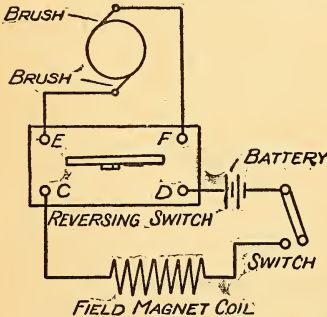

FIG. 2. CONNECTIONS OF REVERSING SWITCH
a washer being placed between the two to separate them enough to allow the lever to clear the segments (G, H, I) in passing over. Brush (J) is connected with binding post (C) and brush (K) to binding post (D) using coiled wires to allow free movement of the lever. Brush (J) must be just long enough to make contact with segment (G) when (K) touches (H). Moving the lever to the right brings brush (J) in connection with (H) and brush (K) with (I), thus reversing the current. Brads (L) and (M) may be used to stop the lever at the correct points. Fig. 2 shows connection for reversing a battery motor. When so connected the current will be reversed in the armature but not in the field magnet coil.—L. A. KING.